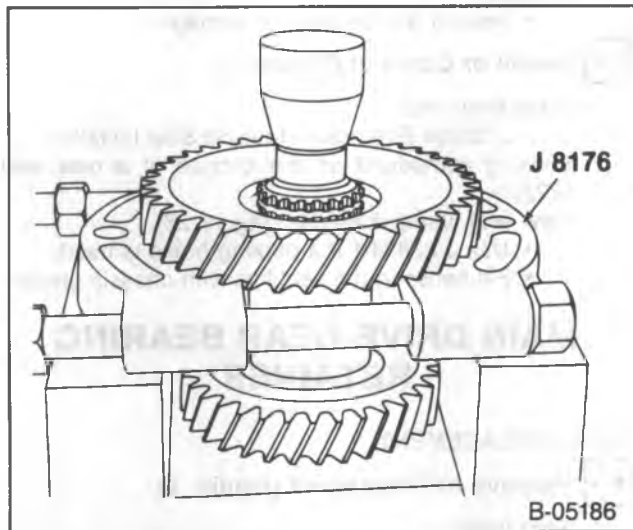

Figure 24—Removing the Driven Gear
- Support the gear and press the countergear through (figure 24).